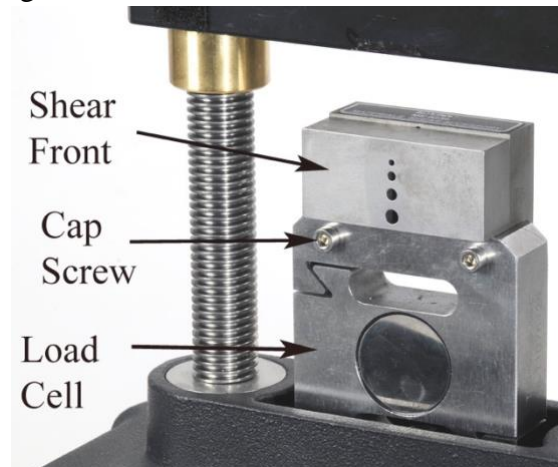
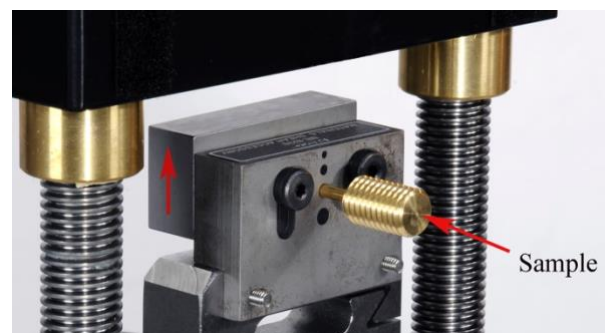

Figure 2: Front view of Shear Accessory
Figure 3: Back view of Shear Accessory
2. The Materials Shear Accessory consists of two hardened metal blocks, held together permanently by the two black screws (see Fig. 3). The stationary block (with the label) fastens directly to the load cell using the two silver cap screws as shown in Figure 2.
3. The movable block slides vertically to provide the shearing action. Lift this block to the top of its travel as shown in Figure 3 and insert the sample into the appropriately sized hole from the **BACK** of the Shear as shown. If you insert the sample from the front, it can get in the way as you turn the crank!